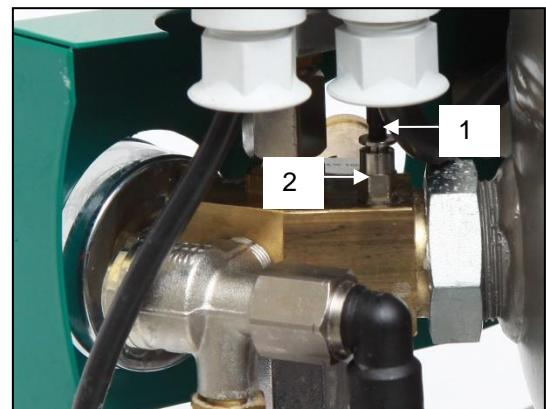

Fig. 8
13.2. Connecting the cabinet pressure gauge hose to the compressor (Fig. 8)